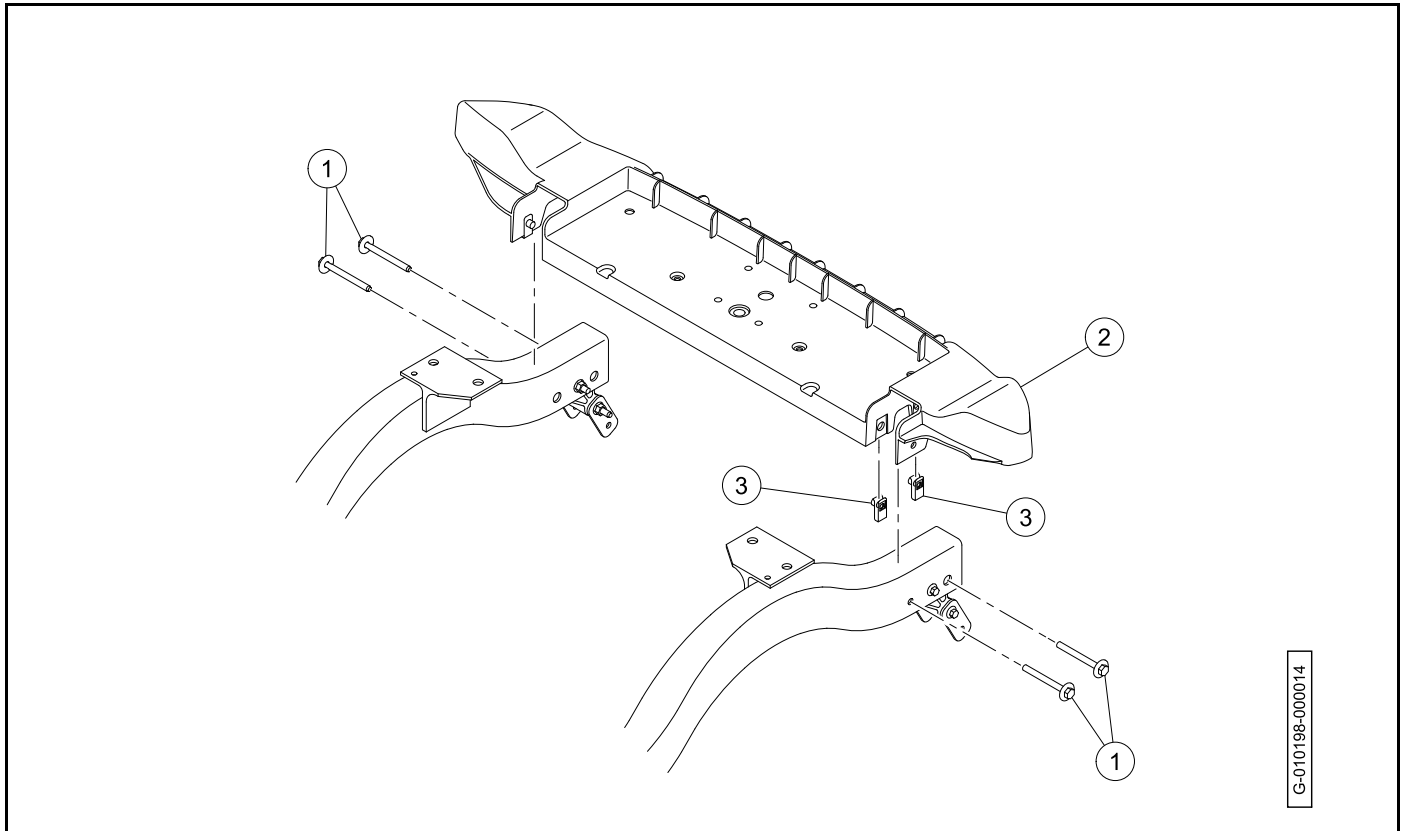

Figure 4-33 Rear Crossmember
1. Remove the four bolts (1) (**Figure 4-33**) .
2. Remove the rear crossmember (2).
1. Install the rear crossmember (2) onto the vehicle (**Figure 4-33**).
2. Make sure that the J-clips (3) are installed on the inside of the frame rail.
3. Install the four bolts (1). Tighten the bolts to 56 lb·in (6.35 N·m).